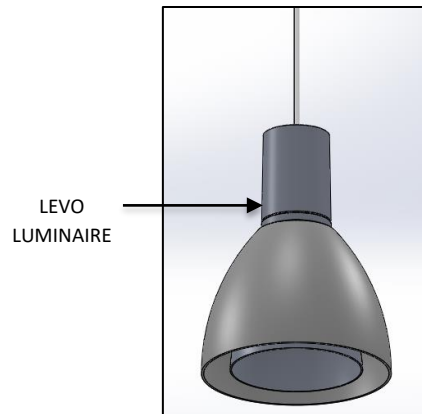

FIG.2 LEVO LUMINAIRE (PRE-ASSEMBLED)
1. LEVO LUMINAIRE with CORD attached. (Pre-assembled as shown in FIG. 2)